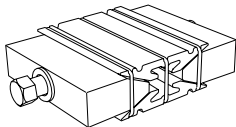

Fig. 2
- Pre-compression wedge (fig. 2) is an option when pre-compression is needed to create room for the wedge.